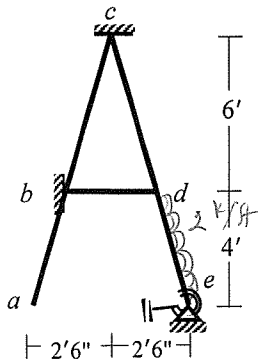

Fig.4
4. Use Stiffness Method (neglect axial deformations) to calculate rotation at joint d and e of the frame loaded as shown in **Fig.4**, if the joint e is a circular foundation of radius 3 ft on the surface of subsoil (half-space) with shear wave velocity (v_s) equal to 1175 ft/sec